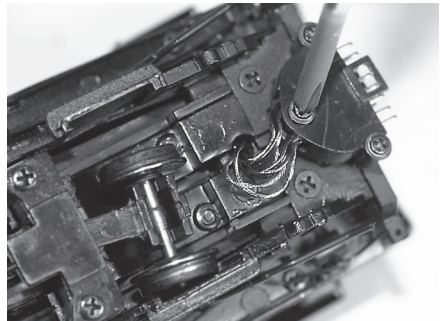

Figure 8 - Remove the Phillips head screw on the male drawbar connector
The instructions for removing the motor are illustrated in Figures 16 through 19. *Before any of this begins, you will first need to remove the boiler from the chassis as shown in Figures 8 through 13.*
1. Remove the male drawbar connector by removing the Phillips head screw as shown in Figure 8.